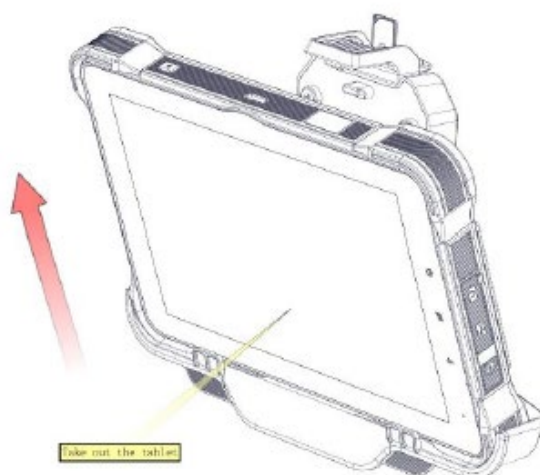

Fig. 4-7
2.Take out the device as Fig.4-7 shown.